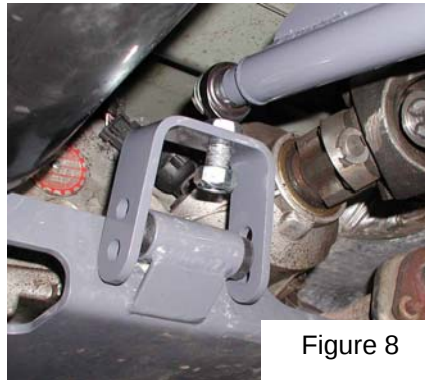
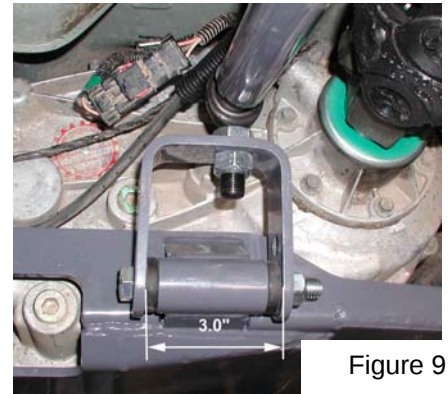

Figure 8
Figure 9
**figure 8.** Work the link bracket over the pivot bushings so that the appropriate set of link holes lines up with the bushings. Note that the 'heads' of the bushings 'roll over' easily, so it will take some 'wiggling' to get a 'clear hole' through both bushings and both sides of the link bracket. Once aligned, pass the 1/2"x4.5" bolt through from either side and secure with a locking nut and tighten until the pivot bushing 'heads' are compressed and the sides of the link bracket are at or just over 3.0" apart as in **Figure 9**.